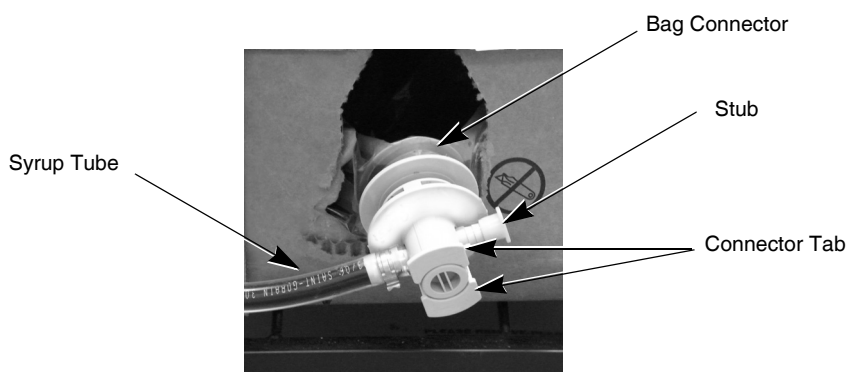

Figure 8.
Refer to Table 7 and Figure 8 when replacing a Type 2 BIB container.
6.	Re-install the QCD connector onto the new BIB connector by slipping it onto the connector and pushing the syrup hose and stub down toward the box.  <div style="display: flex; align-items: center;"> <div style="margin-right: 10px;">  </div> <div> IMPORTANT:            Button should be flush, as shown in Figure 8.         </div> </div>